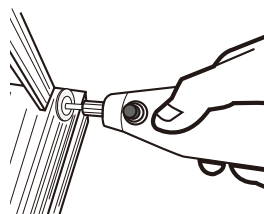

Fig. 12
- > Hold the product like a hammer shaft for coarse work such as with a cutting disc (Fig. 12).